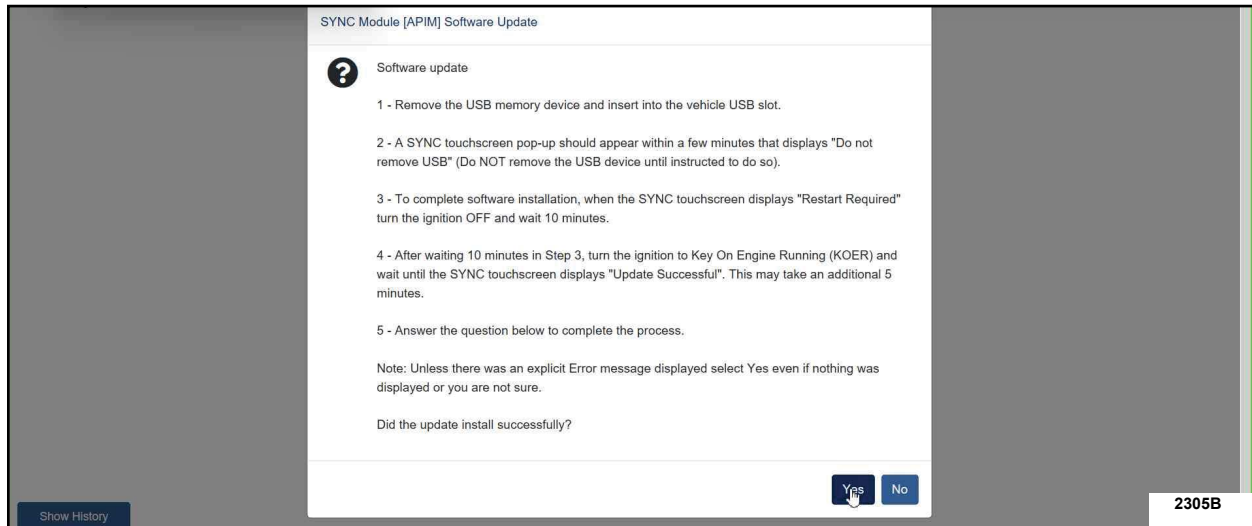

FIGURE 6
33. Continue to follow all on-screen instructions carefully until the following screen is reached. See Figure 6.
- b. Wait ten (10) minutes.
35. After 10 minutes continue with the remaining steps shown in Figure 6.